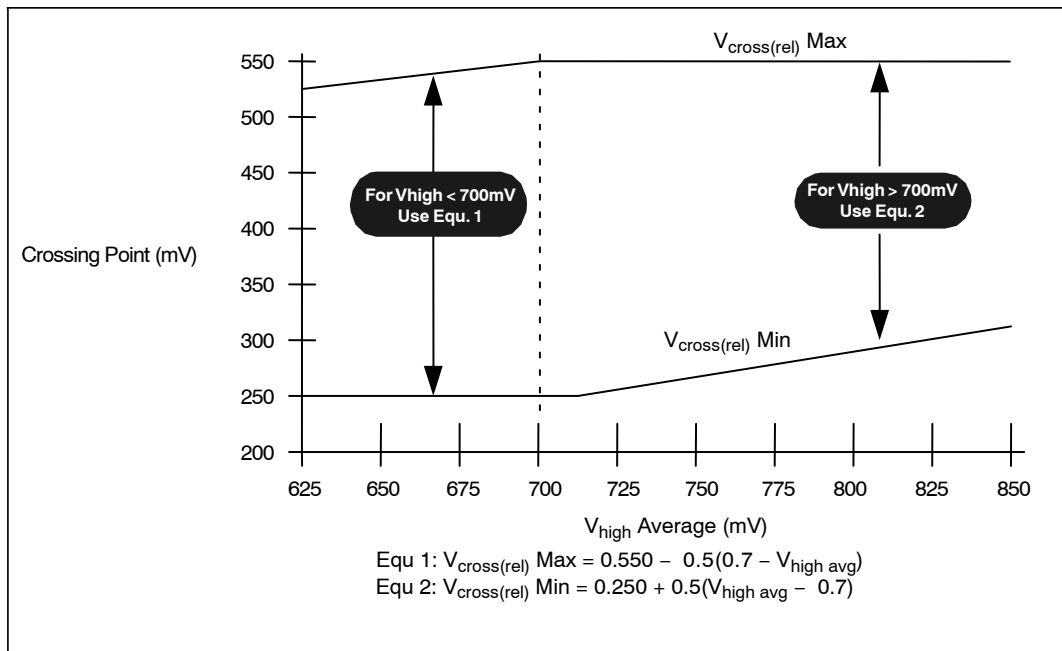

Figure 16.  $V_{\text{cross}}$  Range Clarification (Note 40)
| $V_{\text{cross}}$ absolute                     | Absolute Crossing Point Voltages (Notes 12, 17 and 24)Relative Crossing Point Voltages can be calculated (Notes 16, 17 and 24) (Figure 16) | 250  |     | 550                     | mV     |
16. Vcross(rel) Min and Max are derived using the following, Vcross(rel) Min =  $0.250 + 0.5 (V_{\text{high avg}} - 0.700)$ . Vcross(rel) Max =  $0.550 - 0.5 (0.700 - V_{\text{high avg}})$ . (see Figure 16 for further clarification).